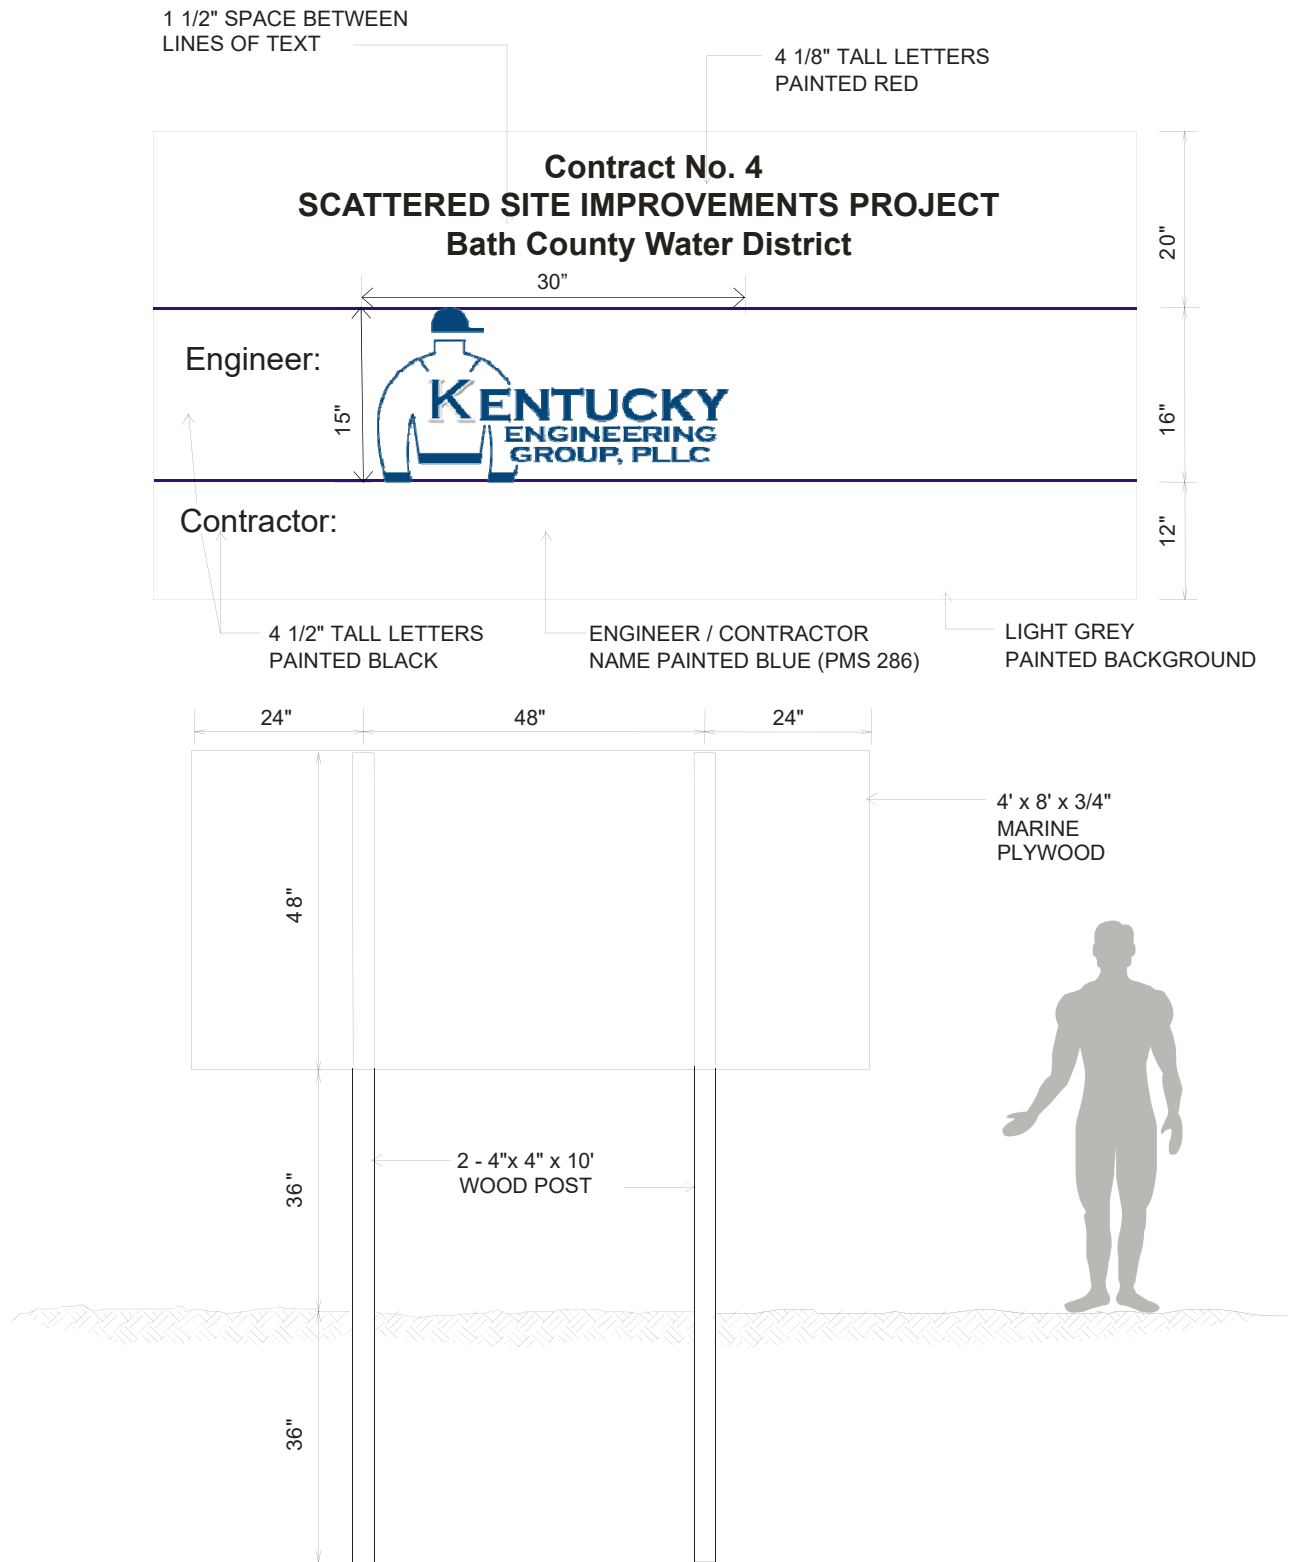

FIGURE 1
- B. The Contractor shall furnish and install one (1) sign on the Project. The sign shall conform to the specifications and painted as shown on Figure 1.